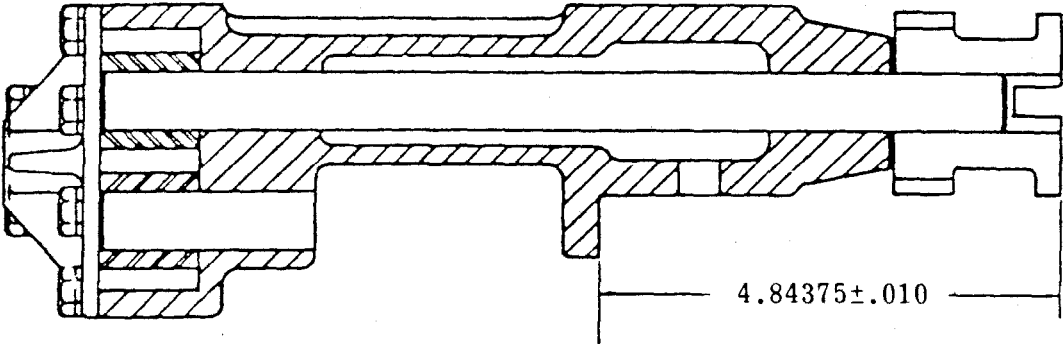

Figure 10-4. Oil Pump Assembly Dimension.
- (1) Press drive gear (14) onto shaft (16).
- (2) Insert shaft into pump body (19) and press gear (8) onto shaft **until a dimension of 4.84375 ±0.010 inches is obtained between** the mounting flange and the top of the drive flange (figure 10-4) .
- (3) Press shaft (18) into pump body and install driven gear (15).
- (4) Install cover plate (12) and secure with lockwasher (10) and screws (9 and 11).
- (5) Install new seal (3), Lockwashers (7), and pressure relief valve (6).
- (6) Check that drive shaft rotates freely. If shaft binds, disassemble pump and ascertain cause before installing.
- (7) Install pickup screen (4) and tighten.